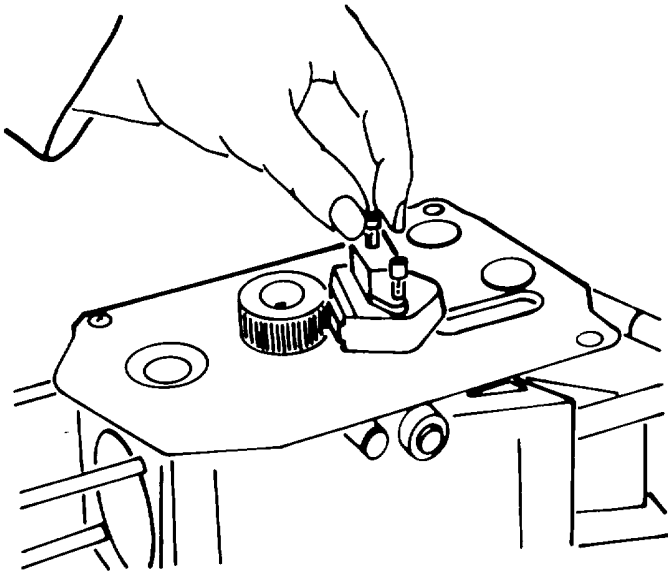

Figure A-26. Oil Pump
u. Oil Pump. Remove the oil pump by removing the two oil pump screws with a 5mm allen head wrench (Figure A-26.)